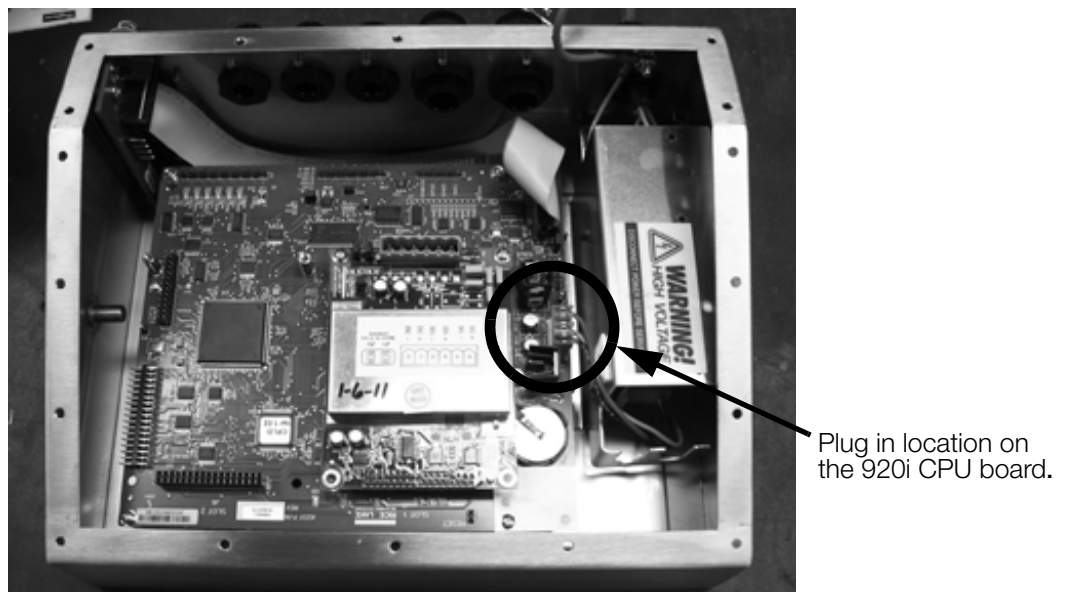

Figure 6. Plug in the DC Output Side of Power Supply to 920i CPU Board
- Carefully plug in the +/- 6 VDC output side of the power supply to the CPU board. It's location is noted in Figure 6.